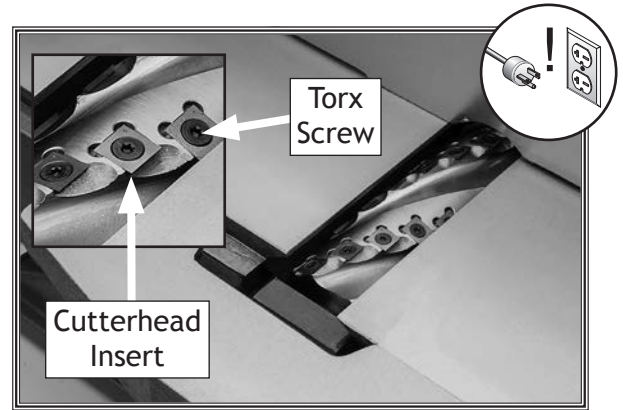

Figure 37. Example of cutterhead inserts and Torx screws.
5. Carefully clean away all sawdust or debris from top of insert, Torx screw, and surrounding area (see Figure 37).